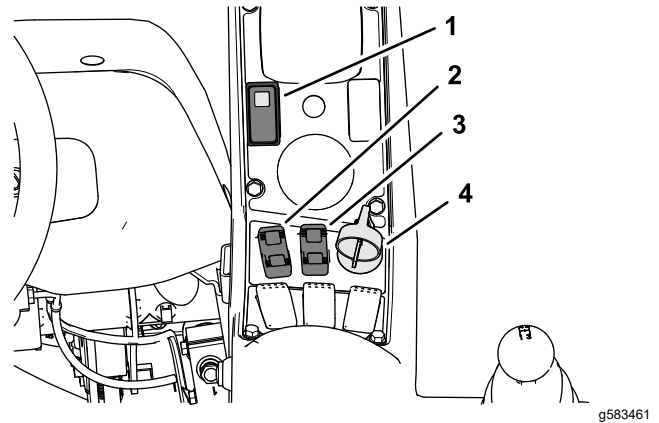
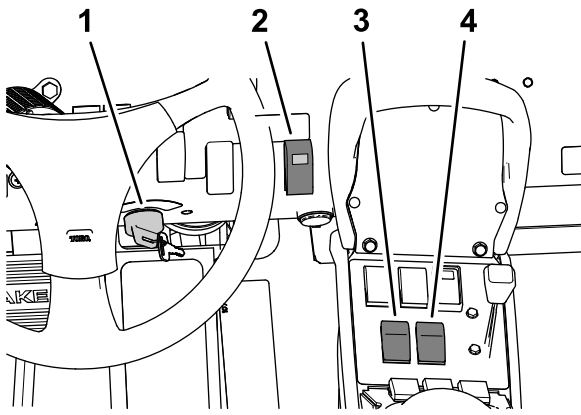
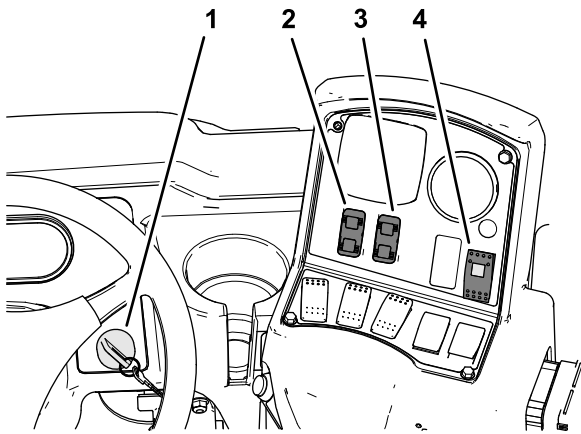

Figure 31
Figure 32
Figure 33
Note: The sonic boom indicator light (Figure 31, Figure 32, or Figure 33) illuminates on the sonic-boom switch, and indicates the status of the sonic boom system as follows:
1. Press the sonic-boom switch (Figure 31, Figure 32, or Figure 33) to the ON position.
2. Use the boom-lift control switch (Figure 31, Figure 32, or Figure 33) to lower boom to the desired distance from the ground.
Note: You can temporarily override the automatic operation of the booms using the boom-lift control switches (Figure 31, Figure 32, or Figure 33) to raise or lower a boom or both booms.
4. To resume the automatic mode, momentarily press the boom-lift control switch(s) to the LOWER position (Figure 31, Figure 32, or Figure 33) to allow the sonic-boom controller to position the boom-tip height at the desired distance from the ground.
1. Press the sonic-boom switch (Figure 31, Figure 32, or Figure 33) to the OFF position.
2. Use the left and right boom-lift control switches to change the height of the outer booms (Figure 31, Figure 32, or Figure 33).